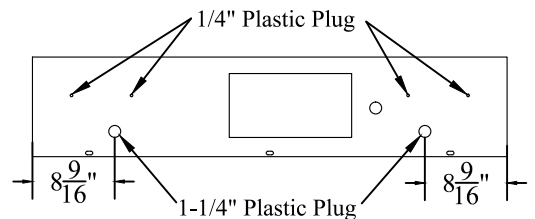

Figure 19: Box cover access holes.
5. Remove the plastic plugs from the box cover at locations shown (Figure 19).
Note: If this light kit is being installed on an older liftgate with smaller access holes or no holes at all, two (2) 1-1/4" diameter holes must be drilled in the locations shown (Figure 19).